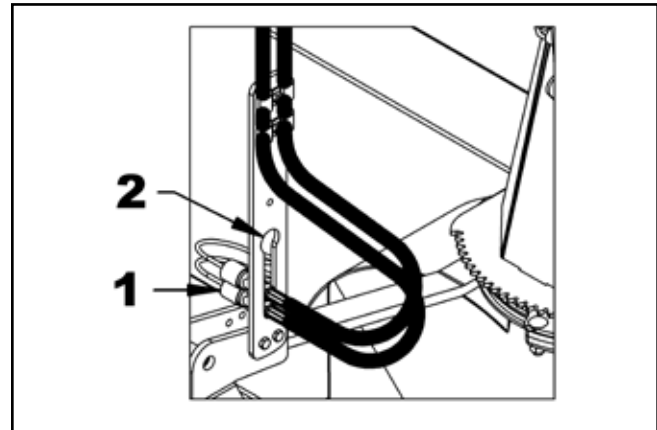

**Figure 35.** Secure Hoses
- Figure 35: Run the hoses (1) over the snow blower with a large bend radius, without interfering with the sharp edges or maintenance of the snow blower. Secure in the two top holes of the hose support (2) with two hose clamps (3), two 3/8" NC x 1-1/4" bolts and nylon insert locknuts (4, 5). Do not over-tighten to avoid damaging the hoses.